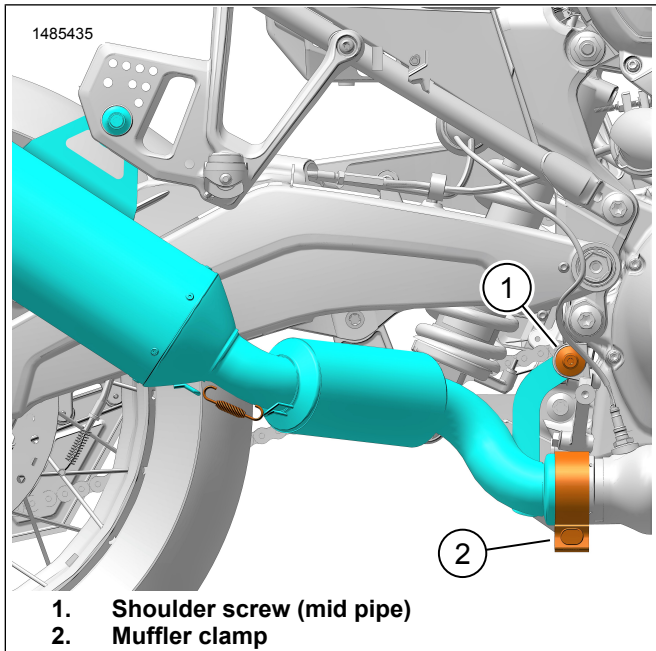

Figure 6. Mounting Bracket Screw
7. Figure 6 Apply threadlocker to mid pipe shoulder screw (1) that was previously removed.